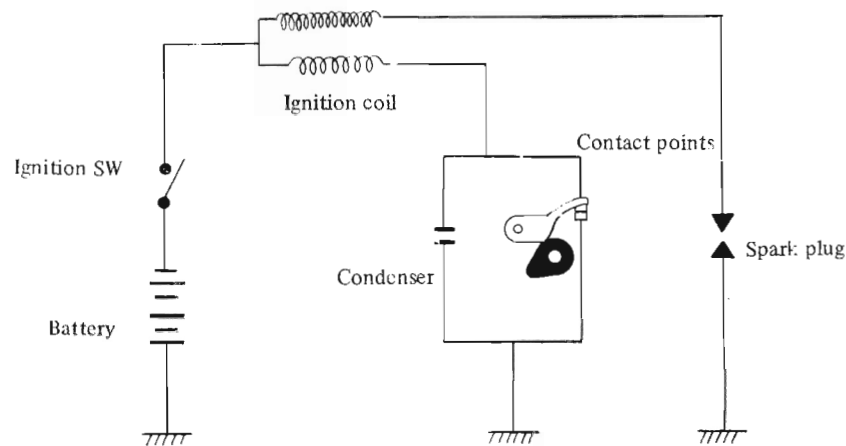

Fig. 5-27
This ignition method is mainly used in the A series model. As shown in Fig. 5-27, there is an contact breaker, ignition coil and spark plug in the circuit.
- a. Fig. 5-27 shows that the contact breaker points are closed. If the ignition switch is turned on in this state, the current from the battery goes to the contact breaker through the primary coil of the ignition coil and returns to the minus side of the battery. Therefore, the constant magnetic flux is generated in the ignition coil. When the cam by the contact breaker turns and the arm of it is pushed up, the contact points are opened and the current which flows in the primary side of the ignition coil is suddenly cut off. Consequently, the magnetic flux which is generated in the ignition coil lessens very rapidly, and the current in the direction of preventing the magnetic flux from changing is generated in the secondary coil. This is current of high voltage. The ignition coil is connected to the spark plug and discharges that current in the cylinder. The high voltage which is generated in the secondary coil depends upon the ratio of the primary windings to the secondary windings. At the moment when the contact breaker is opened, several hundred volts are generated in the primary coil. Since this current is generated in the direction to the contact breaker which is opened, discharging occurs between the contact points and sometimes sparking is generated. In this case, no effective high voltage can be induced in the secondary coil. To prevent it, usually a condenser is connected in parallel with the contact breaker to absorb such sparks.